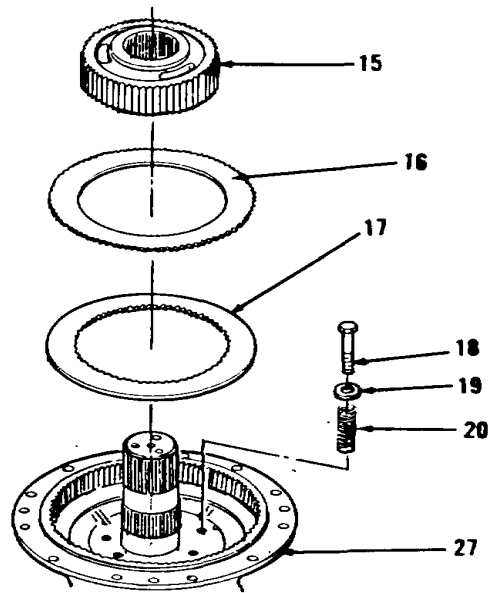

Figure 14-152.
10. Remove hub (15) from housing (27, Figure 14-152).
11. Remove first one of ten discs (16) and first one of nine disc assemblies (17) from housing (27).
12. Remove remaining nine discs (16) and eight disc assemblies (17) in the same order as in step 11.